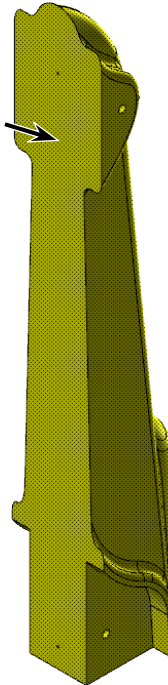

Fig. 4
Step 3. Click the **solid body** to select it, **Fig 4**. The solid will highlight when selected. Click **End Selection** (ENTER).